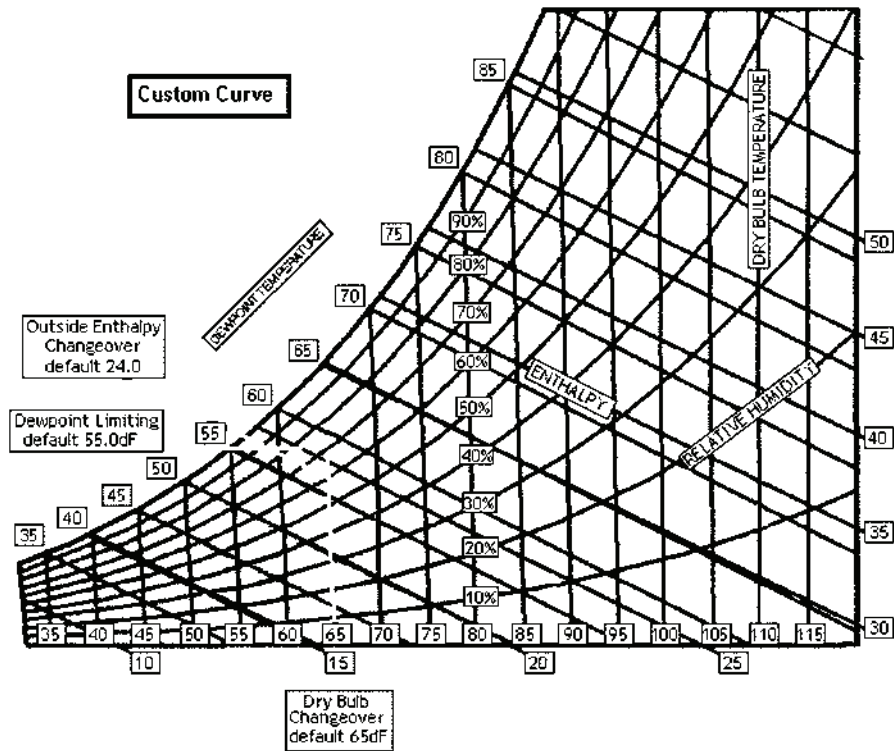

Fig. 11 — Custom Changeover Curve Example
**Outdoor Dewpoint Limit Check** — If an outdoor relative humidity sensor is installed, then the control is able to calculate the outdoor air dewpoint temperature and will compare this temperature against the outside air dewpoint temperature limit configuration (**Configuration** → **ECON** → **O.DEW**). If the outdoor air dewpoint temperature is greater than **O.DEW**, then free cooling will not be allowed. Figure 11 shows a horizontal limit line in the custom curve of the psychrometric chart. This is the outdoor air dewpoint limit boundary.
**Custom Psychrometric Curves** — Refer to the psychrometric chart and the standard Honeywell A-D curves in Fig. 10. The curves start from the bottom and rise vertically, angle to the left and then fold over. This corresponds to the limits imposed by dry bulb changeover, outdoor enthalpy changeover and outdoor dewpoint limiting respectively. Therefore, it is now possible to create any curve desired with the addition of one outdoor relative humidity sensor and the options for changeover now available. See Fig. 11 for an example of a custom curve constructed on a psychrometric chart.